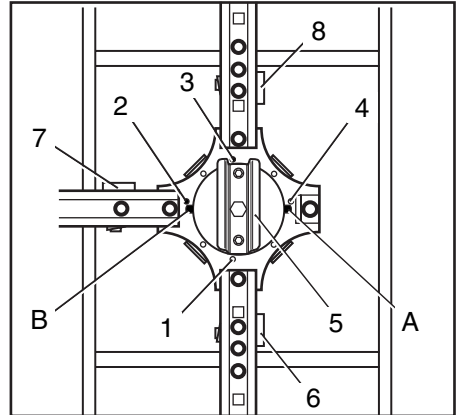

Fig. 24 Swivel plate
ATTENTION Be sure the pins are screwed in like items 2 and 3 in Fig. 24.